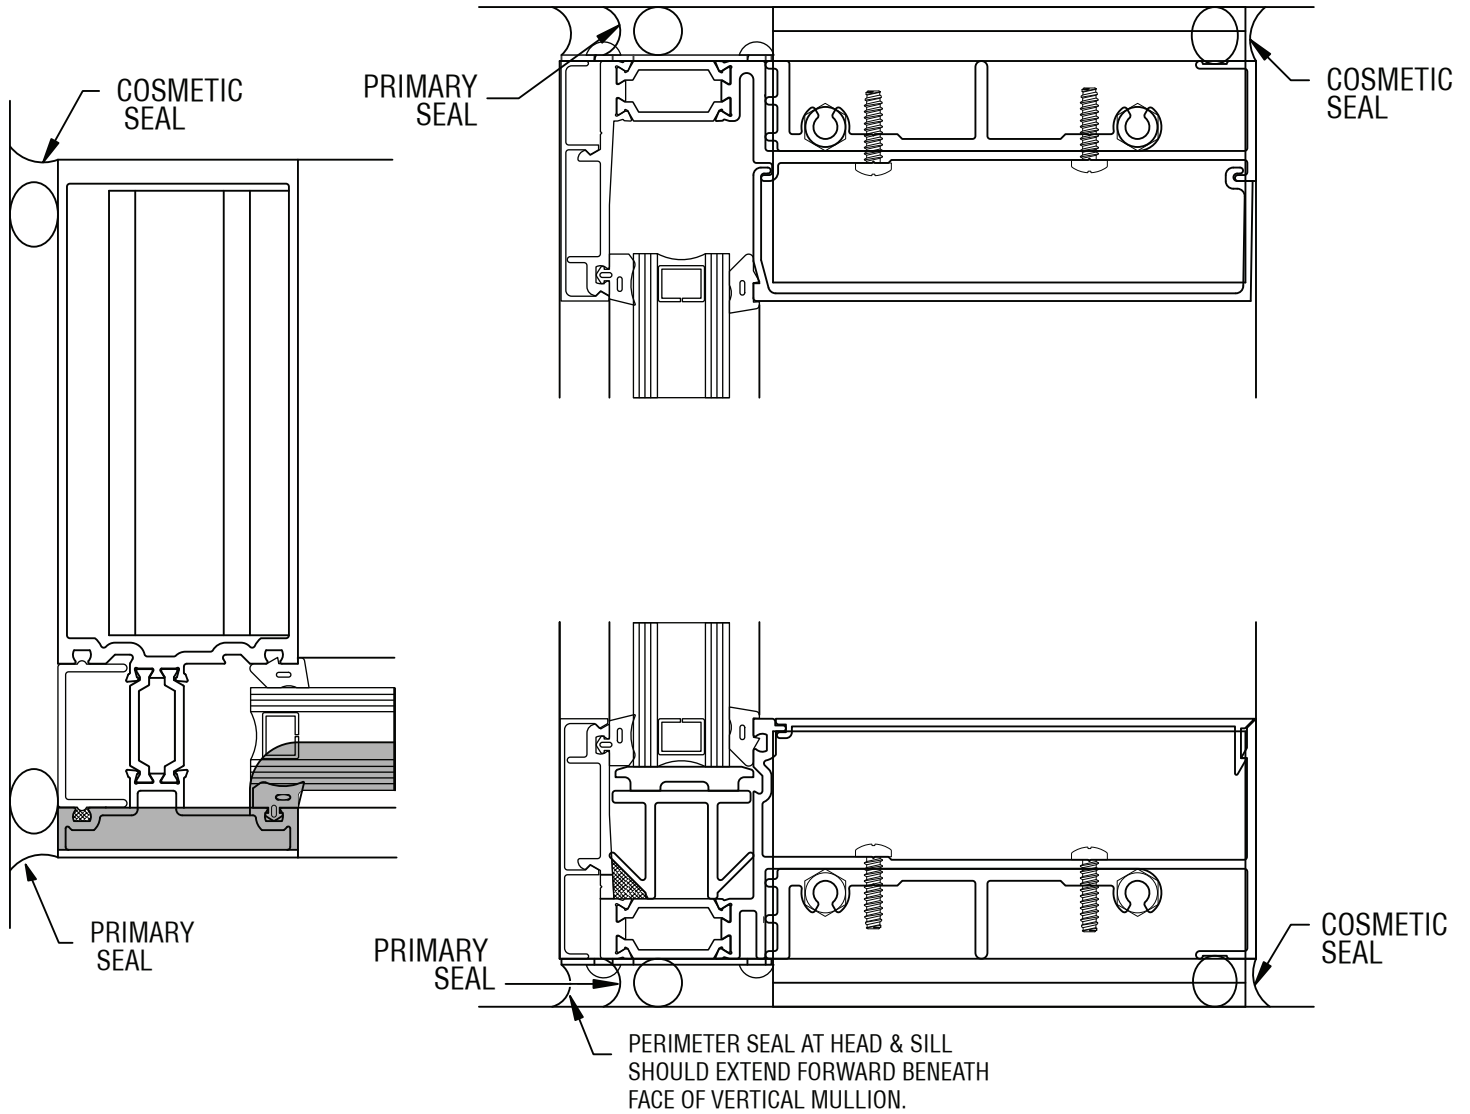

Figure 15
- 2.6 When all framing members are installed, apply the perimeter seal. **SEE FIGURE 15.**